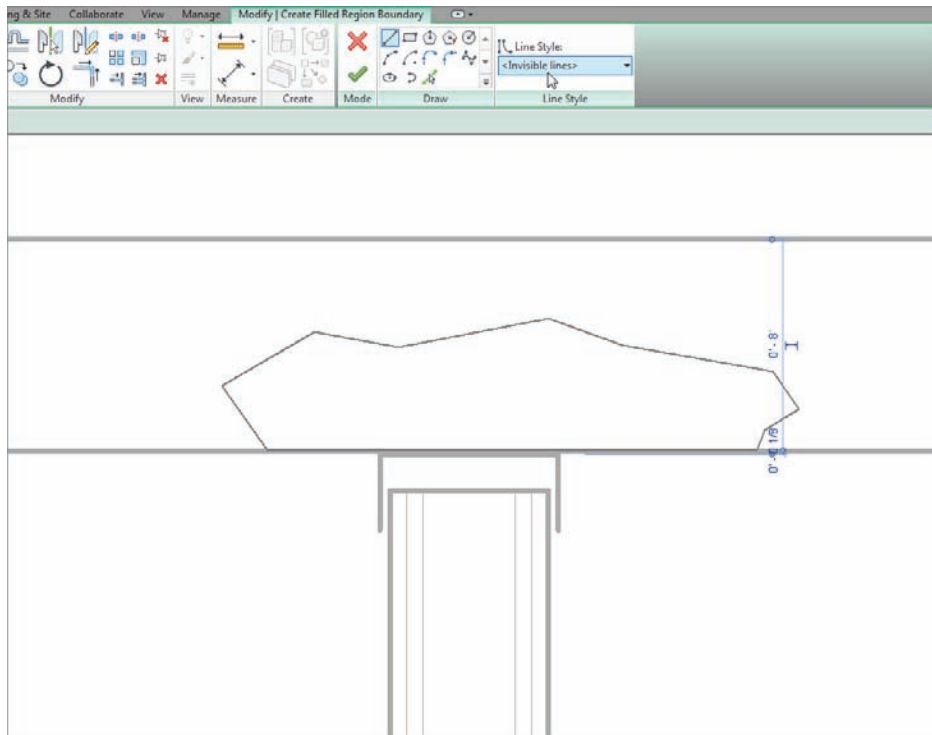

FIGURE 12.70 Draw the filled region with Invisible Lines.
2. In the Line Style panel, click <Invisible Lines>, as shown in Figure 12.70.
3. Draw a boundary (see Figure 12.70), and press Esc.